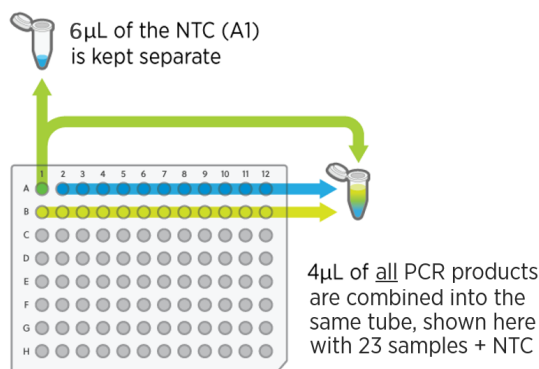

Figure 7: Pooling PCR reactions. Note that the NTC may not be in well A1, depending on how the collection was set up. Refer to the Lab Worksheet to check.
2. Pool PCR products as follows (Figure 7). Note that depending on how the collection was set up, the **NTC may not be in well A1**, or it may not have been included. Check the Lab Worksheet file to know if/where the NTC is located in the plate. Please note that without an NTC, library QC and initial data QC are limited, and NanoString's ability to troubleshoot problems is limited.